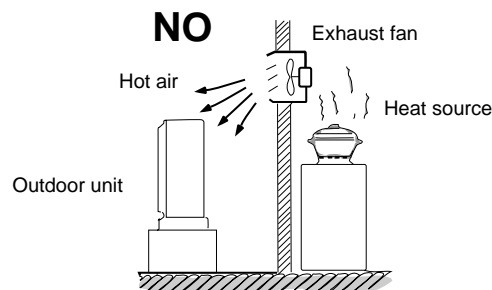

Fig. 3
- heat sources, exhaust fans, etc. (Fig. 3)